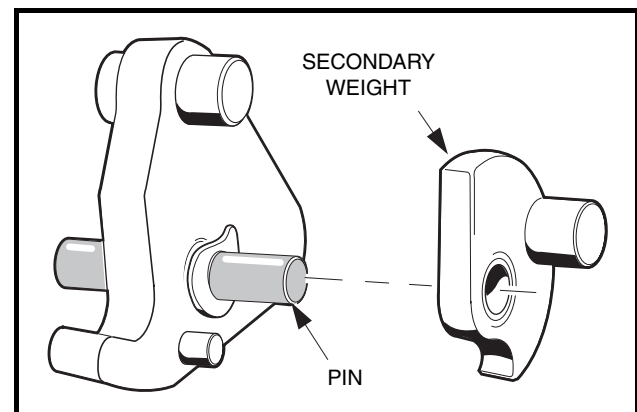

Figure 17-11 Install Secondary Weight
9. Install the secondary weights onto the mounting pins with the weight pins on the secondary weights pointing away from the primary weights. The wave washers should be between the primary and secondary weights (**Figure 17-11, Page 17-8**).